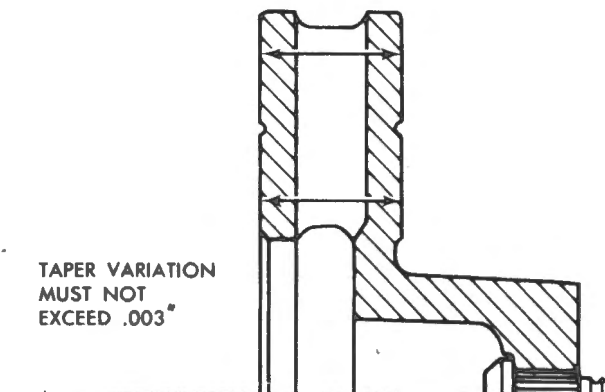

Fig. R-20
- 2 Both sides of the disc must be ground equally and the thickness must not be reduced to less than 22.74 mm (0.895 in) from the original thickness of 25.4 mm (1.0 in). Fig. R-20.